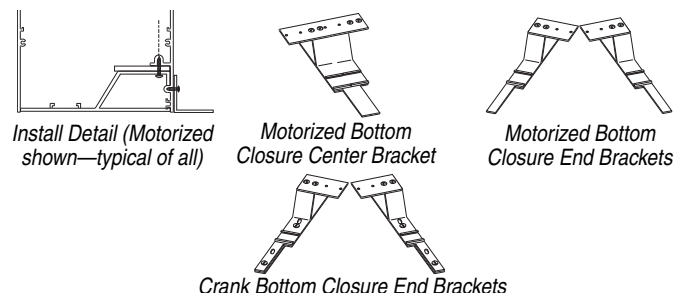

Figure 9
- ⑤ Following the procedures on pages 1 and 2, install fabric/roller assemblies into the already-installed roller brackets in the headbox. Install the rear/upper assemblies first. Be sure to install one assembly at a time and if needed, the fabric panel heights can be adjusted so that the bottom edges of the fabric panels are aligned. **On large units, this procedure should be done on only one panel at a time to minimize the amount of fabric weight that must be supported during the adjustment procedure. See Fabric/Roller Assembly Alignment" on page 4 for instructions.**
- ⑥ Following the procedures on pages 1 and 2, install fabric/roller assemblies into the already-installed roller brackets in the headbox.
- ⑦ Install bottom closure brackets for appropriate operator (See Fig. 9).